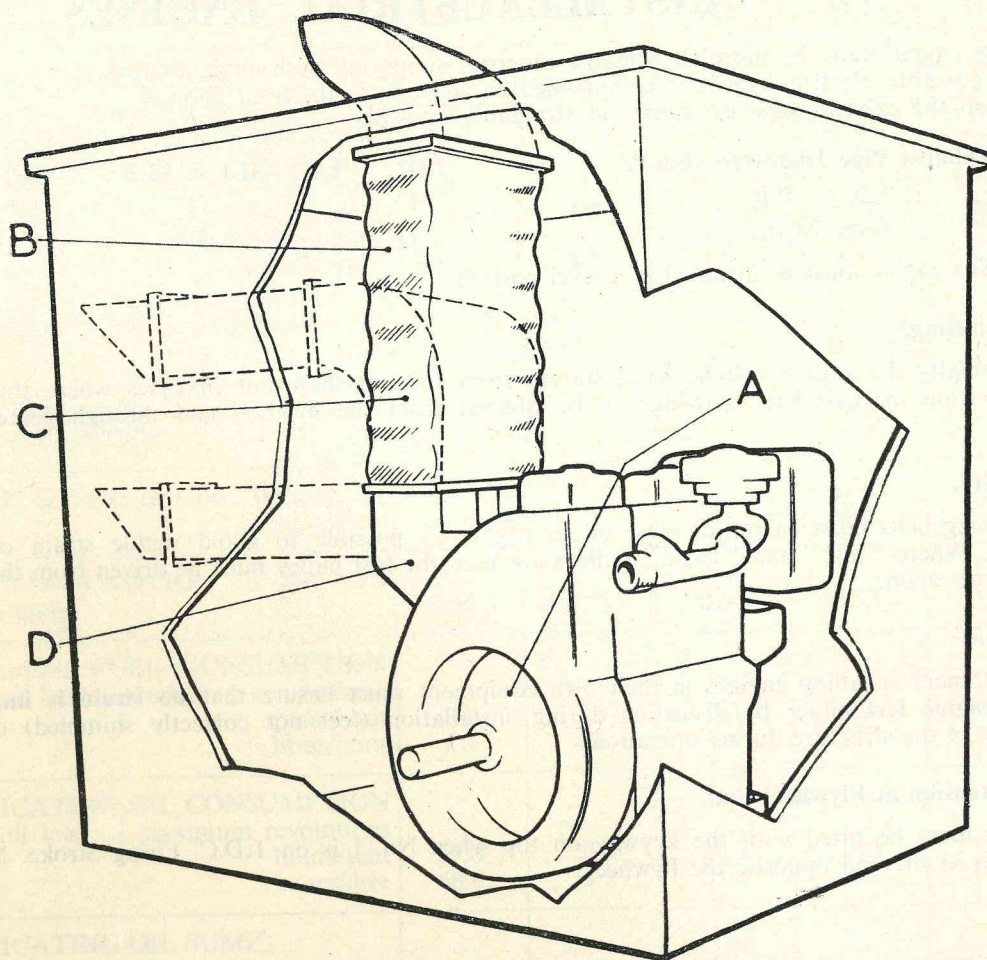

Fig. 3.—Method of leading out the hot cooling air in small enclosed compartments.
- A** Area of trunk and cowl to be as given in Fig. 3.